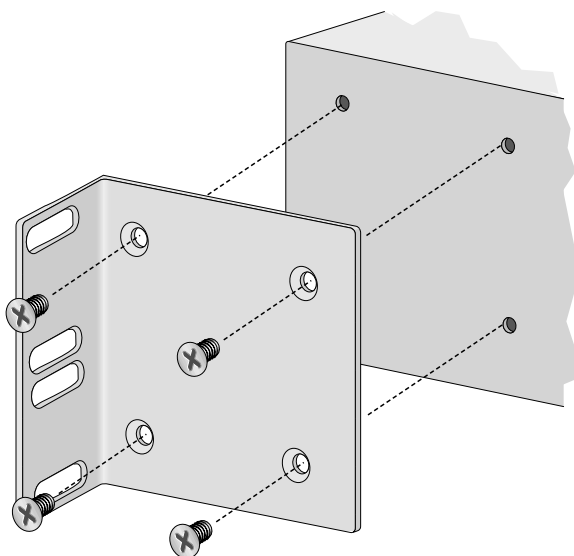

Figure 23 Attaching Rackmounting Brackets
4. Attach a rackmounting bracket to one side of the switch using four of the screws that came with the switch. See Figure 23.